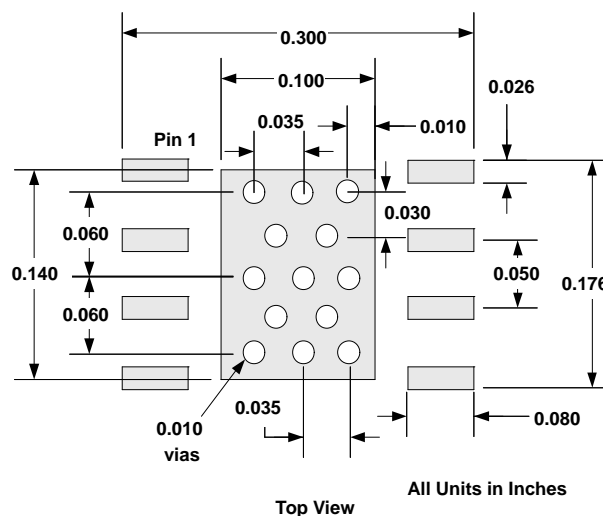

Figure 72. DDA PowerPAD PCB Etch and Via Pattern
1. PCB with a top-side etch pattern is shown in Figure 72. There should be etch for the leads as well as etch for the thermal pad.